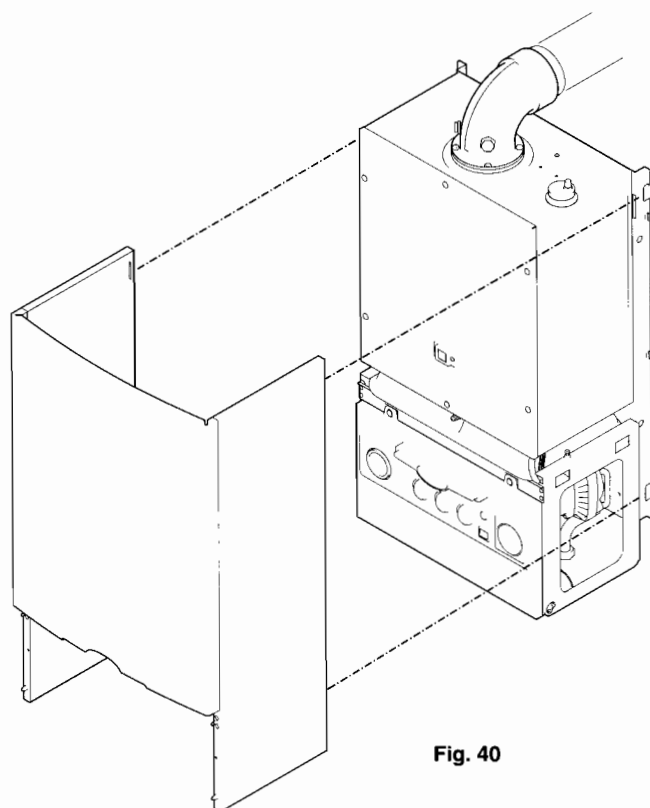

Fig. 40
1. Position the outercase on the chassis, ensuring that the four slots in the side flanges align with the hooks on the chassis (Fig. 40).